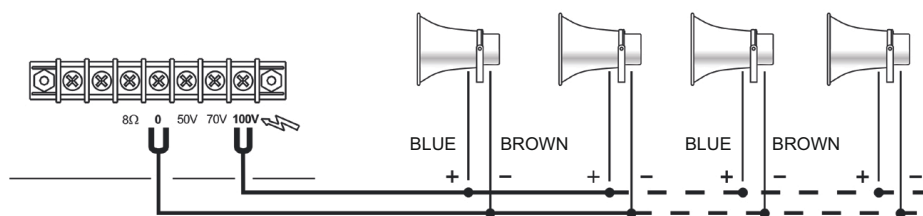

Fig. 1
- Connect the ends of the cable leading out from the horn to the 100 V distribution line (see Fig. 1).